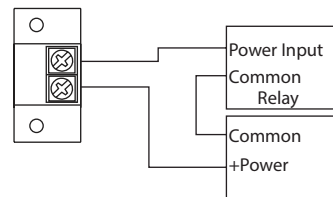

Figure 1
**Read all warnings before beginning.** Ensure the selected device has the correct ratings for application. Set the range jumper to the desired range. See Figure 1. Mount the sensor with two screws through the base.